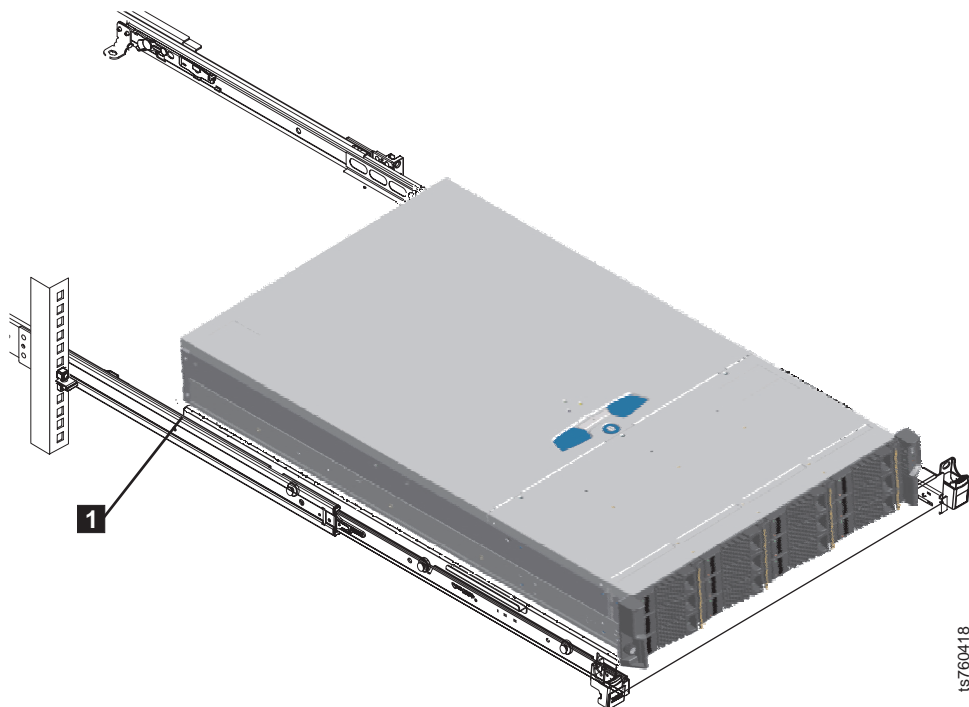

Figure 34. Extending the slide rails and support tray
2. Refer to Figure 34 on page 59. Working from the front of the rack, push the front tab and pull the slide rails and support tray forward. Continue pulling until the rails are fully extended and click into the locked position **1**.